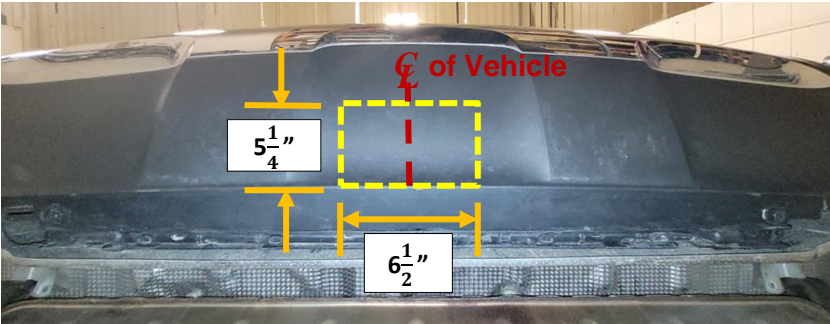

Figure 2
- Trim fascia** –Using a tape measure, marker, and die grinder, measure, mark, and trim the bottom cover as shown in **Figure 2**.